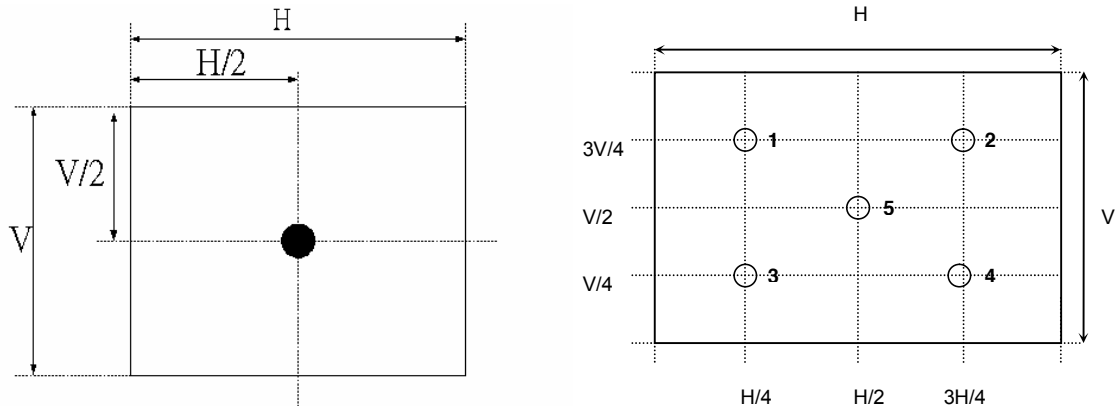

Fig.4-2 Optical measurement point
2. Surface luminance is luminance value at point 1 across the LCD surface 50cm from the surface with all pixels displaying white. From more information see Fig. 4-2. When $V_{DD} = 24V$, $I_{DD} = 7.3A$.